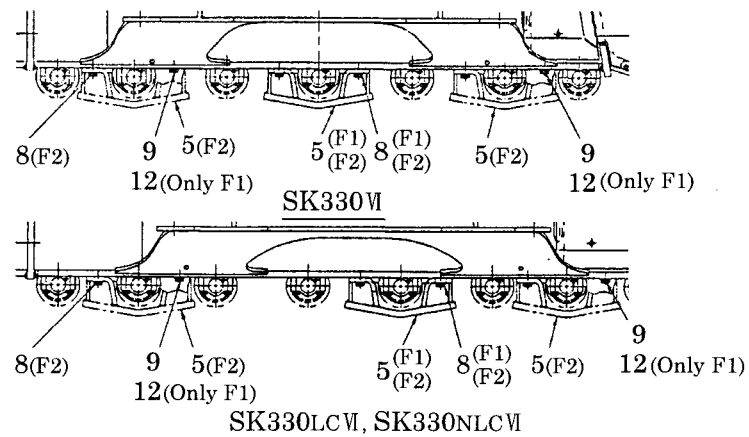

Fig. 4-3 Installing lower roller
11. Assembling the damper (See Fig.4-3.)
#### (2) Removing track guide (See Fig. 4-3)